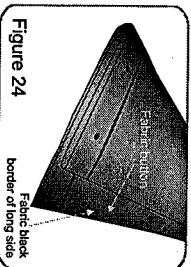

Figure 24
2. Take off the fabric from the frame by releasing the buttons (Figure 24). Clean the fabric if necessary. Double up the fabric along the short sides as Figure 24, then double up again as Figure 25. (100" fabric double up thrice, 120" and 150" fabrics double up quartic.) Then double up again as Figure 26 indicates. Leave the black border alone in case of scratch. (two operators are required.)